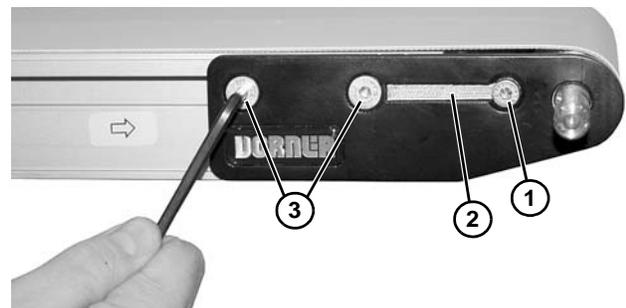

Figure 92
2. On one side of the conveyor, remove screw (**Figure 92, item 1**) and remove dust cover (**Figure 92, item 2**), if installed.
3. Remove two fastening screws (**Figure 92, item 3**).